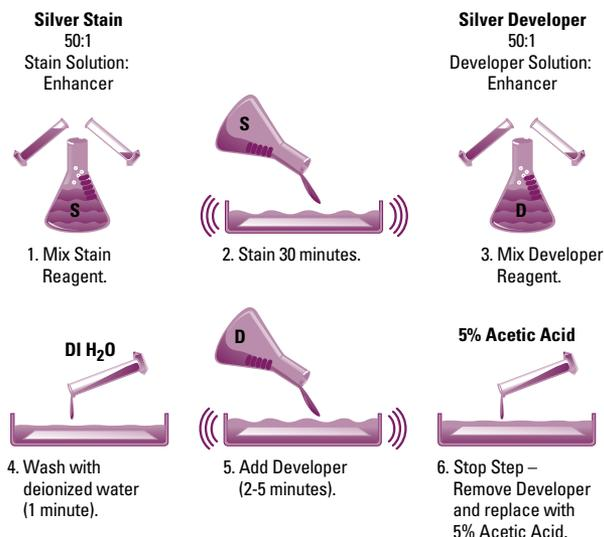

Figure 19. Thermo Scientific Pierce Silver Stain II protocol.
- Flexible protocol (Figure 19) without altering sensitivity or background